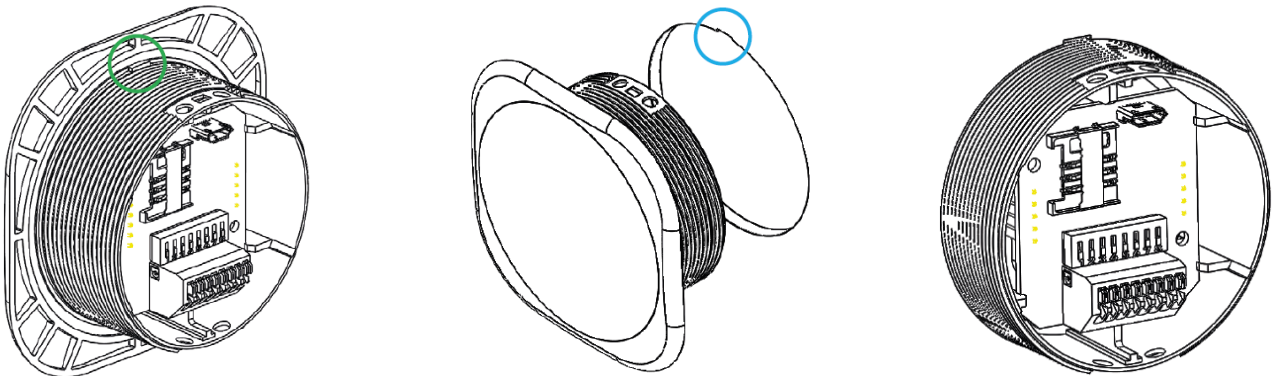

Fig. 5
3. Guide the thread of the housing through the recess. Make sure that the slot nut on the housing (marked in green in Fig. 5) is aligned with the slot of the recess (marked in blue in Fig. 5). To position the reader on the wall surface, lead the slot nut in the groove of the recess.